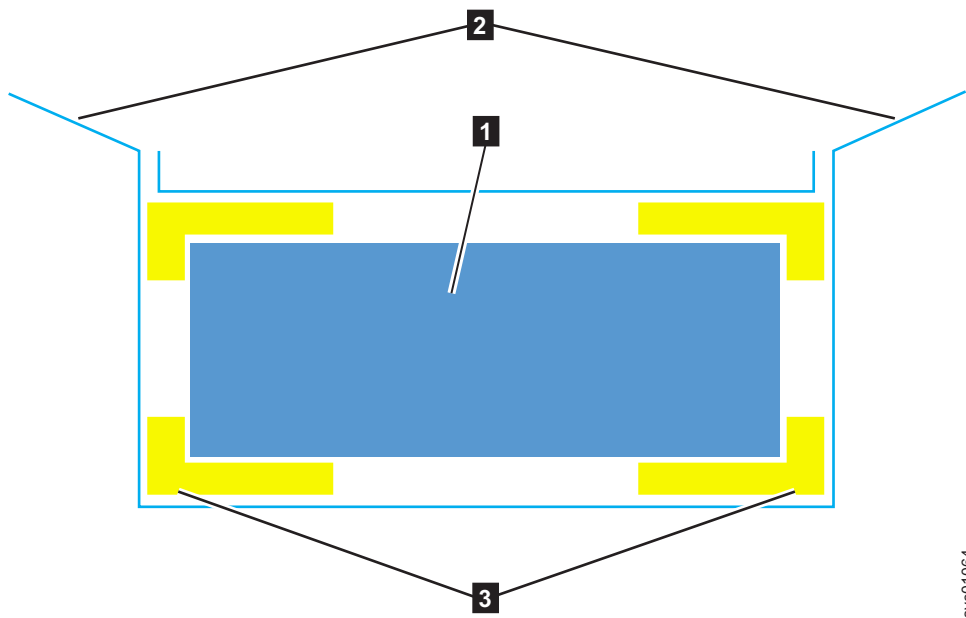

Figure 30. Packaging materials
3. Cut the corners of the shipping box and fold them down to uncover the sides and faces of the expansion enclosure, as shown in Figure 30.